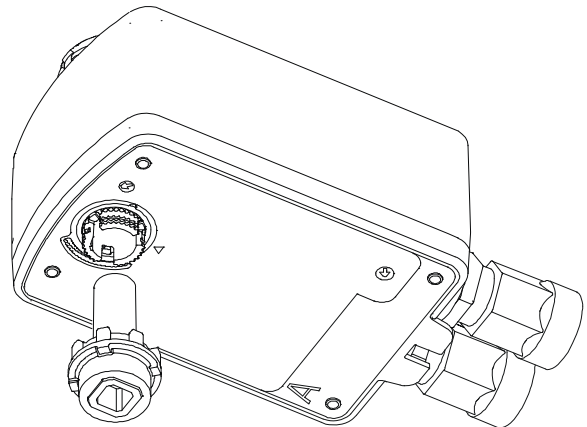

Figure 14: Inserting the Drive Shaft
3. Insert the drive shaft into Side A (Figure 14). The drive shaft is keyed for one-way assembly. With gentle pressure applied, rotate the drive shaft until the key aligns and the drive shaft falls into place.